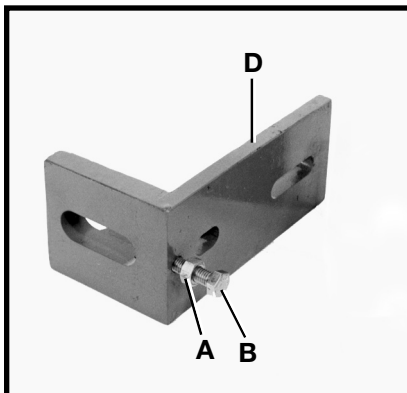

Fig. 9
1. Thread M8 hex nuts (A) Fig. 9 on M8 x 55mm hex socket set screws (B).
2. Thread set screws (B) Fig. 9 into the two tapped holes in the bottom of mounting brackets (D).